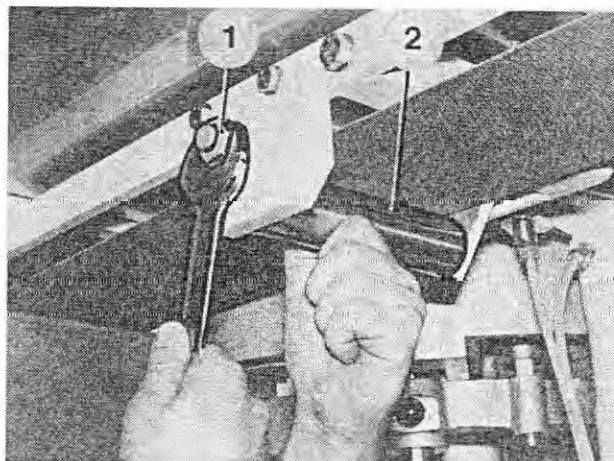

Fig. 72
2. To adjust the tension, loosen the hex nut (Figure 72/1). Increase the tension of the conveyor belt by turning the tensioning facility appropriately (Figure 72/2) and tighten the hex nut.